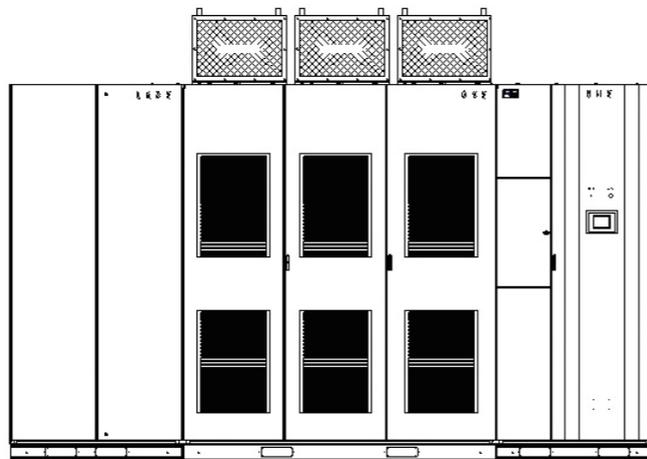
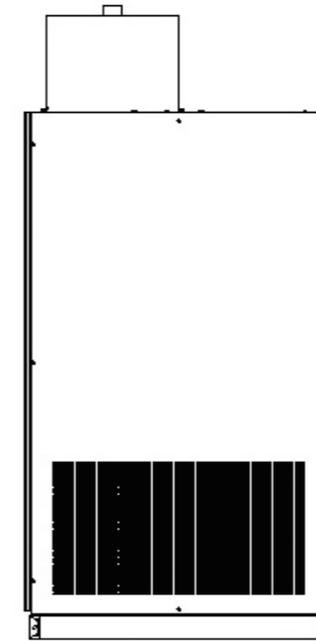

Figure 6.1 FGSVG-C4.0/10 Front Elevation
Figure 6.2 FGSVG-C4.0/10 Left Elevation
With the 10 kV/4 Mar SVG as an example, its front elevation and left elevation are shown in Figure 6.1 and Figure 6.2, respectively. Dimensions of 10 kV/4 Mar SVG: 4100mm (L) \times 2400mm (H) (excluding the fan) \times 1400mm (D). For dimensions and specifications of other products, please refer to Table 3.2 and Table 3.3.